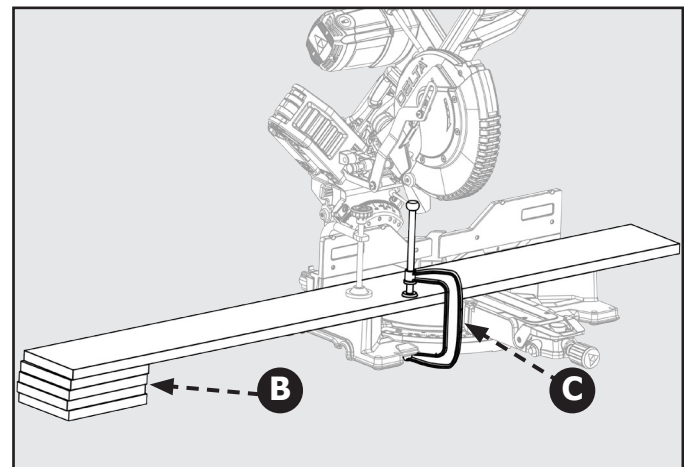

Figure 16
In most cases the included table extensions (workpiece supports) will be sufficient to support longer workpieces. If these are not long enough, the workpiece should be supported further out from the saw. Additional support (B) may be used to make the workpiece lay flat on the saw table. Use the included work clamp or a C-clamp (C) to secure the workpiece to the miter saw table. See Figure 16.